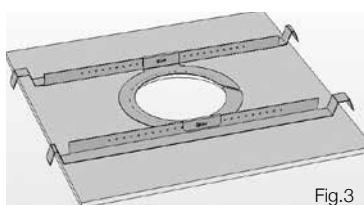

Fig.3
3. Place the C-Ring and tile-bridge on top of the ceiling panel, aligning the C-Ring over the hole, and screw the C-Ring to the tile bridge using the fixings provided. (Fig.3)